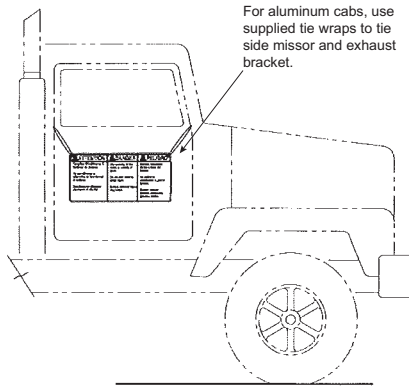

Figure 1
5. Place a Danger sign on both cab doors. "Man working on the inside or outside of drum. Do not start mixer or rotate drum. Serious personal injury may occur." See Figure 1.